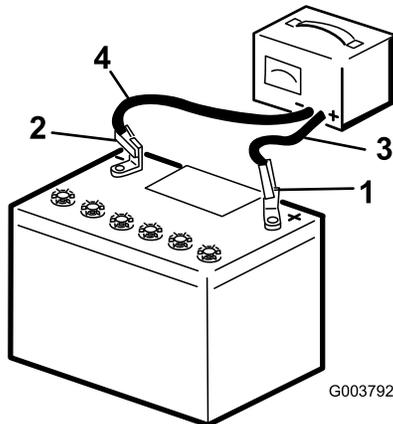

Figure 64
- Charge the battery for 4 to 8 hours at a rate of 3 to 4 A (Figure 64). Do not overcharge the battery.
- When the battery is fully charged, unplug the charger from the electrical outlet, then disconnect the charger leads from the battery posts (Figure 64).